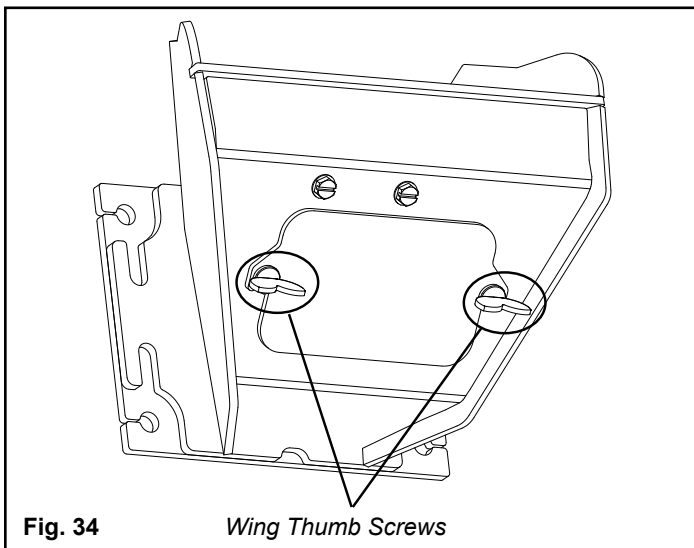

Fig. 34
2. Loosen the (2) wing thumb screws on the lower front angle of the burn pot. (Fig. 34)